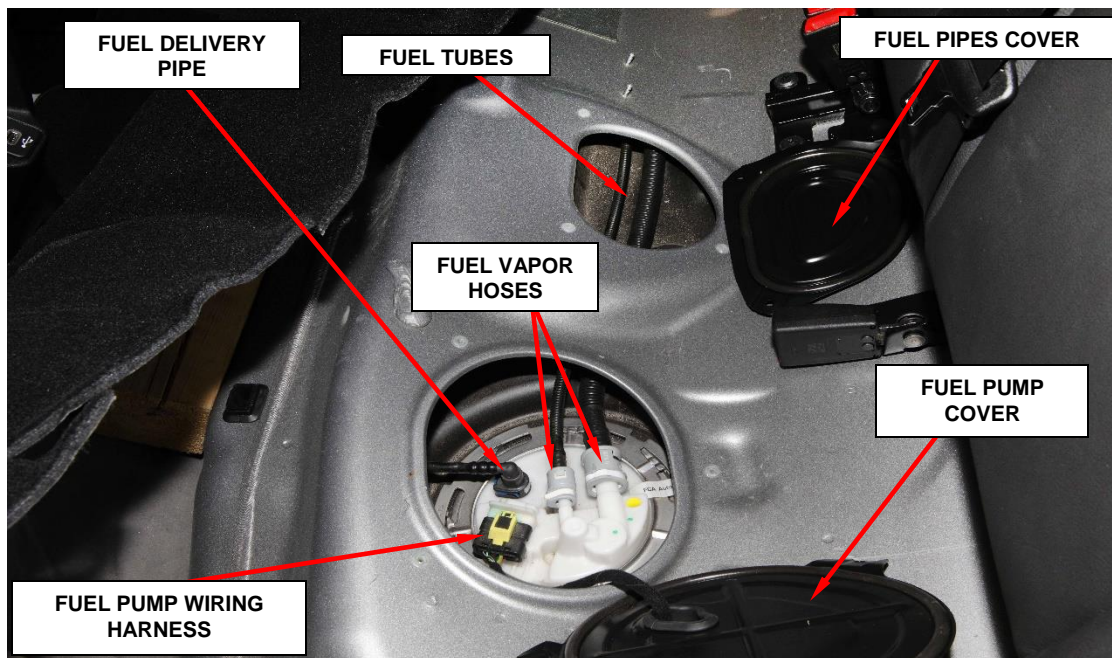

Figure 8 – Fuel Tank Access Covers
40. Reposition the carpet and unscrew the screws and remove the cover to access the fuel tubes (Figure 8).
41. Remove the screws and remove the cover to access the fuel pump (Figure 8).
42. Disconnect the wiring harness from the fuel pump (Figure 8).
43. Disconnect the fuel delivery pipe quick connect coupling (Figure 8).
44. Disconnect the fuel vapor hoses quick connect couplings (Figure 8).
53. Connect the quick connect fuel delivery pipe to the fuel pump module (Figure 8).
54. Connect the electrical wiring harness to the fuel pump module (Figure 8).
55. Install the access cover onto the fuel pump, tighten the screws and the lower cover (Figure 8).